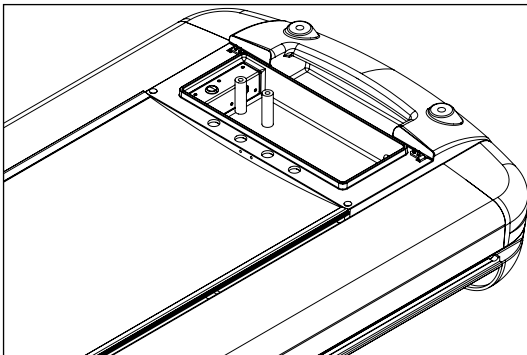
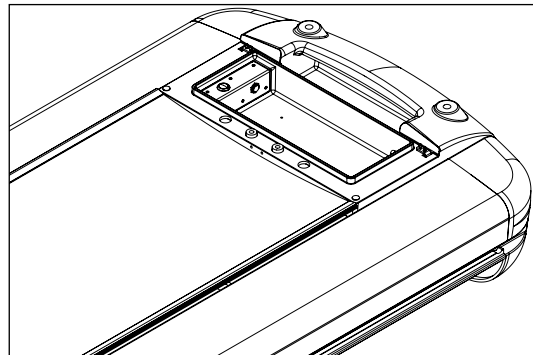

Fig. 3
Fig. 4
2. Insert two spacers into the two middle holes on the cradle (Fig. 3 and Fig. 4).